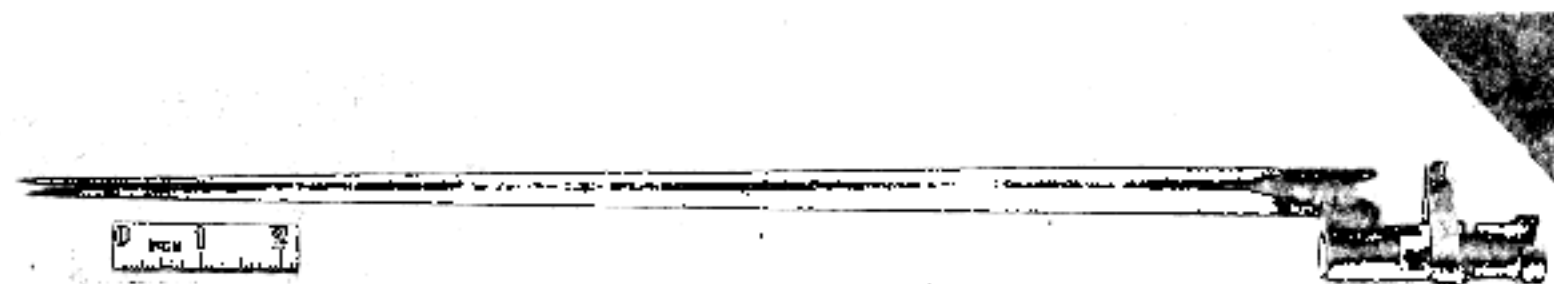

FIGURE 3. BAYONET FOR RIFLE M1991.
c. The detachable fluted bayonet (fig. 3), with an effect sleeve for the barrel, is fastened to the rifle by a locking ring.